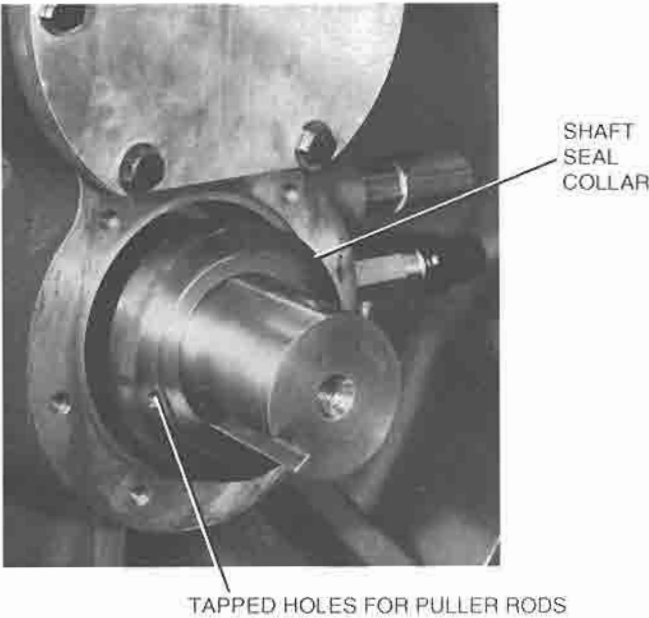

FIG. 8 – SHAFT SEAL COLLAR
4. Using items from the tool kit remove the seal collar from the shaft. (See Fig. 8)
2. Slide the seal collar on to the compressor shaft. Be sure it is positioned with the lapped surface facing out. (See Fig. 8)